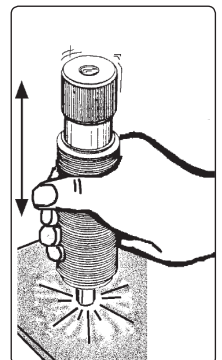

fig.8
- 5.2.9. Remove T-handle and firmly bounce the ram piston (fig.8) on a hard, but non-damaging, surface 6 to 10 times to consolidate the oil.